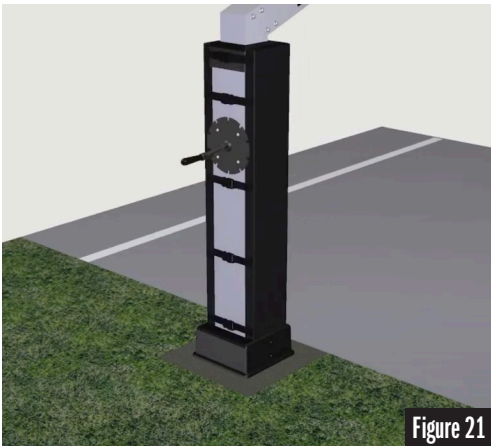
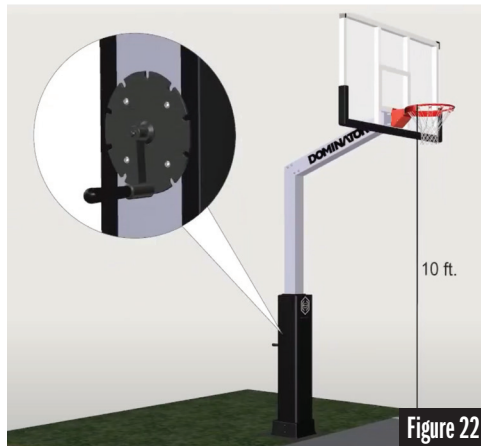

Figure 21
Figure 22
**STEP 13:** Attach and secure crank handle (Part J). Replace the Base Pole Pad. See Figure 21. Raise the hoop to 10 Feet with the crank handle. Check the height using a measuring tape. See Figure 22. Ensure crank handle locks into place to prevent unintended movement.